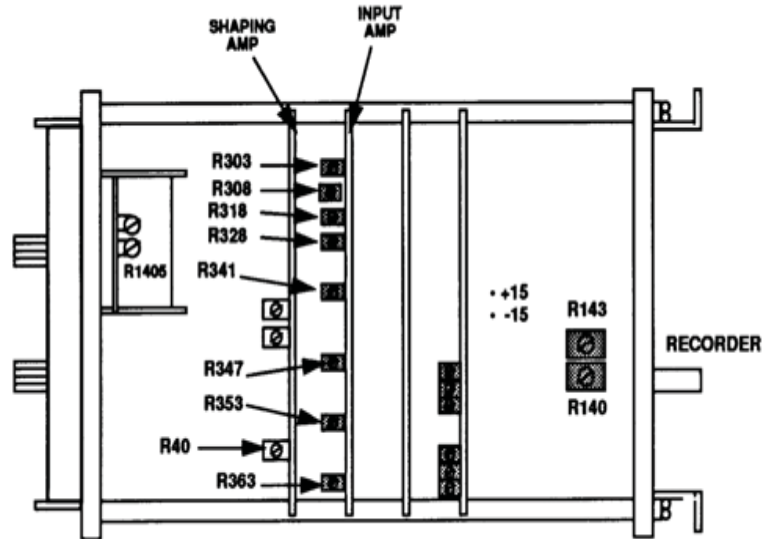

Figure 5. Boonton, Model 92BD with serial number 2891 and above.
(1) Adjust R40 (fig. 5) for a multimeter indication between -0.01 and +0.01 V dc (ideal 0.00 V dc) (R).
(2) Adjust R353 (fig. 5) for a multimeter indication between 9.9 and 10.1 V dc (ideal 10.0 V dc) (R).
(3) Adjust calibrator controls for an output of 1.0 V ac and adjust R303 (fig. 5) for a TI indication between 0.98 and 1.02 mV (ideal 1.0 mV) (R).
(4) Adjust calibrator controls for an output of 3.0 V ac and adjust R308 (fig. 5) for a TI indication between 2.94 and 3.06 mV (ideal 3.0 mV) (R).
(5) Adjust calibrator controls for an output of 10.0 V ac and adjust R318 (fig. 5) for a TI indication between 9.8 and 10.2 mV (ideal 10.0 mV) (R).
(6) Adjust calibrator controls for an output of 30 mV ac and adjust R328 (fig. 5) for a TI indication between 29.4 and 30.6 mV (ideal 30 mV) (R).
(7) Adjust calibrator controls for an output of 100 mV ac and adjust R341 (fig. 5) for a TI indication between 98 and 102 mV (ideal 100 mV) (R).
(8) Adjust calibrator controls for an output of 0.3 V ac and adjust R347 (fig. 5) for a TI indication between 294 and 306 mV (ideal 300 mV) (R).
(9) Adjust calibrator controls for an output of 1.0 V ac and adjust R353 (fig. 5) for a TI indication between 980 and 1020 mV (ideal 1000 mV) (R).
(10) Adjust calibrator controls for an output of 3.0 V ac and adjust R1405 (fig. 5) for a TI indication between 2940 and 3060 mV (ideal 3000 mV) (R).
(1) Connect multimeter to -15 V dc test point located on main amplifier board (fig. 5). If multimeter does not indicate between -14.9 and -15.1 V dc, perform **b** (1) below.
(2) Connect multimeter to +15 V dc test point located on main amplifier board (fig. 5). If multimeter does not indicate between +14.9 and +15.1 V dc, perform **b** (2) below.
(1) Adjust R143 (fig. 5) for a -15.0 V dc multimeter indication (R).
(2) Adjust R140 (fig. 5) for a +15.0 V dc multimeter indication (R).